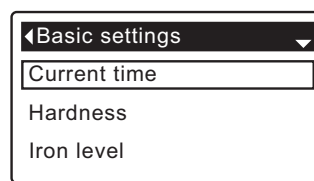

FIG. 38
3. Press the SELECT (O) button to display the Basic settings menu (See Figure 38).
7. Press the SELECT (O) button. The display will go back to the Basic settings menu (Figure 38).